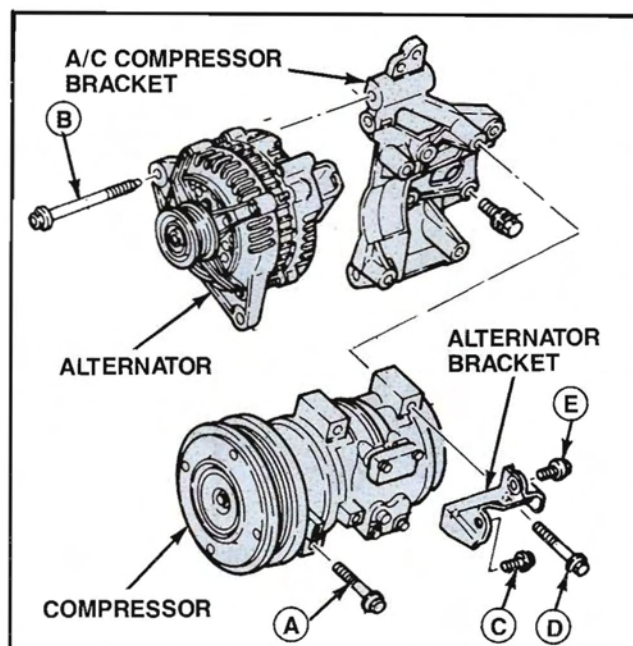

Figure 152. Alternator Installation
3. Install the A/C compressor to bracket and temporarily tighten with the two bolts (A) (Fig. 152).